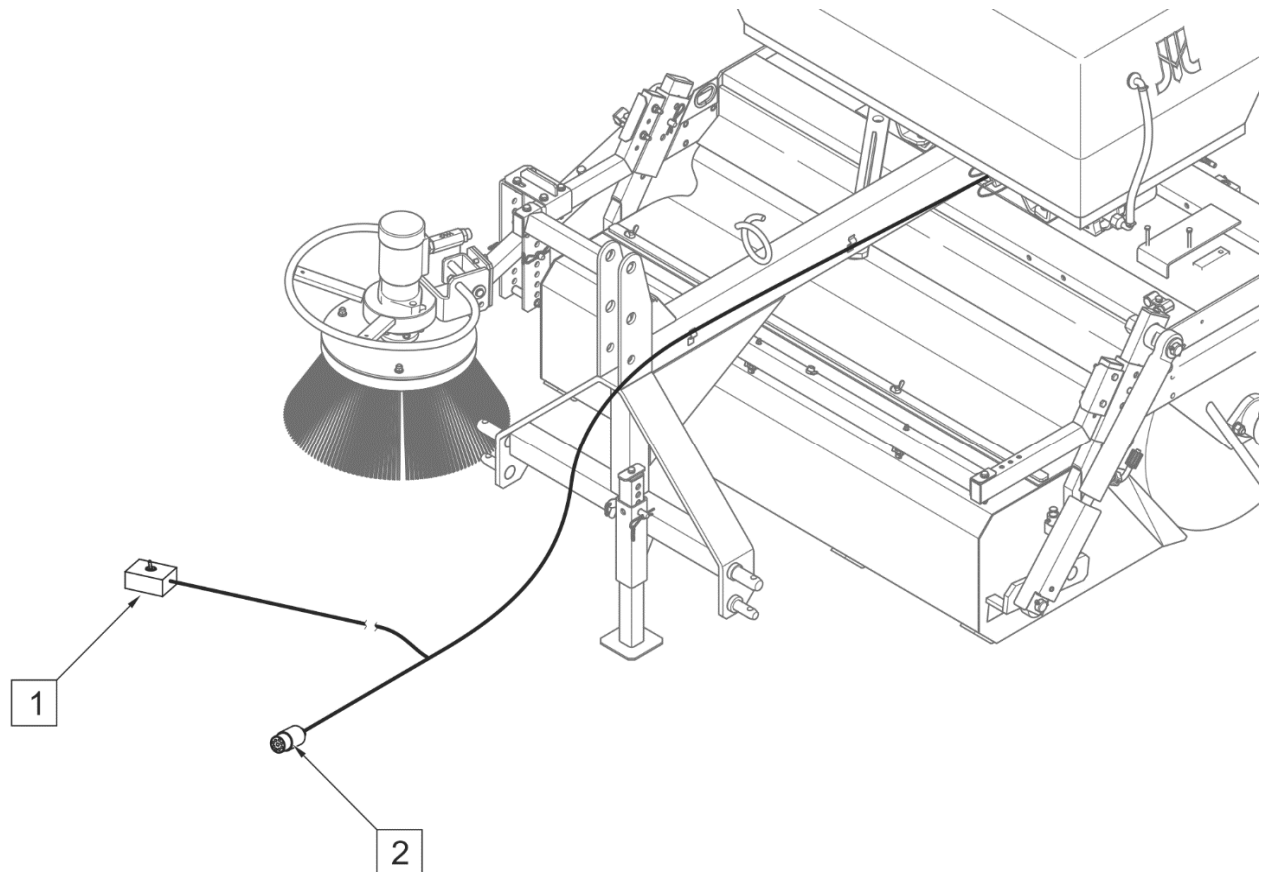

FIG. 4.3 Sprinkler system control
Connect electrical system plug (2) to 12V 7-pole socket in the carrying vehicle. The sprinkler system is switched on and off using switch (1) located on the power lead (FIG. 4.3). Place the switch in the operator cab in an easily accessible place.